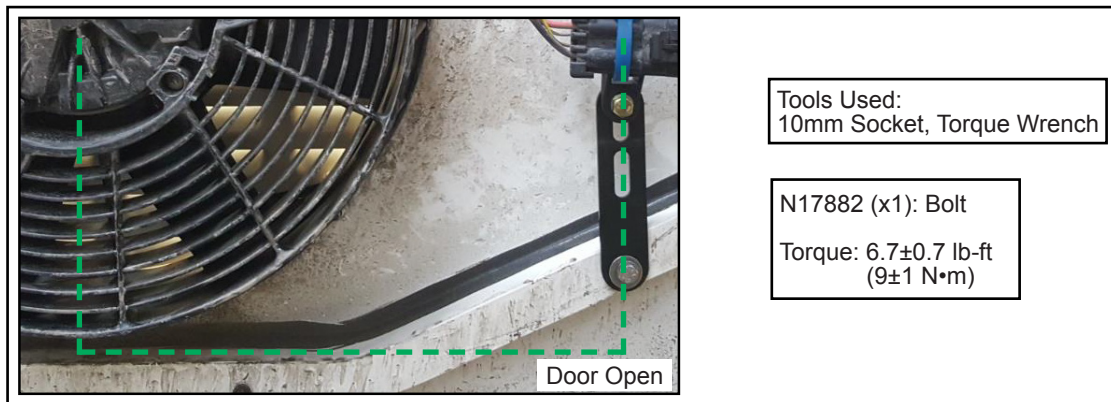

Figure 8 - Typical View of Bracket Orientation
1.17. Align the bracket along a vertical axis and torque the bracket bolt to 6.7±0.7 lb-ft (9±1 N•m) (see Figure 8).